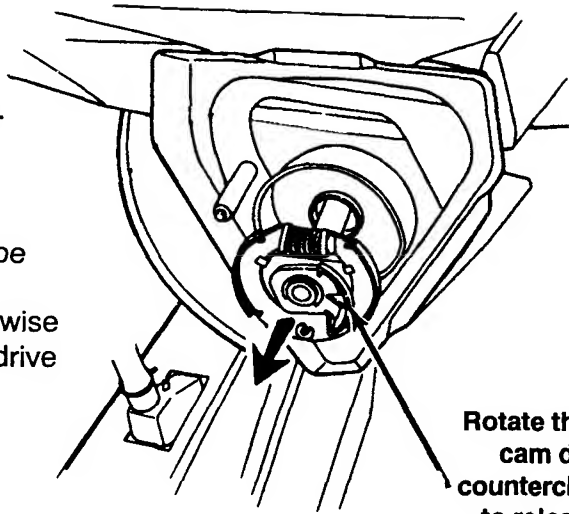

Fig. 68
6. Remove the three (3) bolts securing the gearcase assembly to the tub support.
8. Rotate the brake cam driver counterclockwise to release the brake. Pull the brake and drive tube straight out. (Fig. 68)